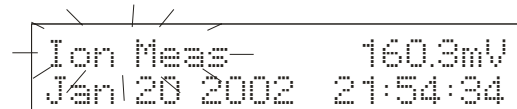

Figure 49
3. If the meter has not been calibrated or has been reset, the display will flash *Ion Meas* and current mV value. See **Figure 49**. If the meter has been calibrated previously, the display will show the current concentration value plus the absolute mV produced by the electrode.